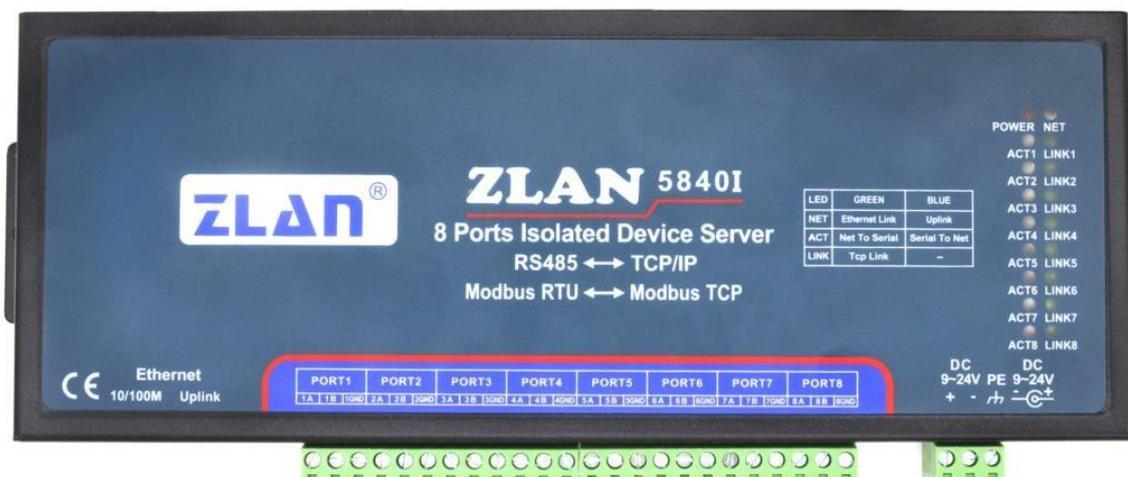

Figure 2 ZLAN5840I Front View
The front view of ZLAN5840I is shown as FIG. 2.
- 3) **Power supply:** standard power adapter (with a positive core of 5.5mm) or power terminal can be used, as shown in figure 2. The supply voltage can be 9 ~ 24V. The power supply current is required to be greater than 600mA. PE is grounded for the enclosure and can be connected as needed.